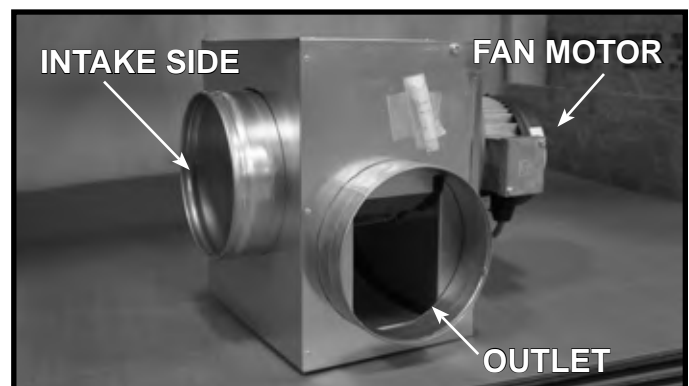

Figure 8.1 In-Line Powervent (PVI-67)
1. Attach the provided 10 inch B-Vent collar to the intake side of the powervent. The intake side is located opposite the fan motor as shown in Figure 8.1. The 10 inch B-Vent collar is packaged separately from the powervent. See Figure 8.2